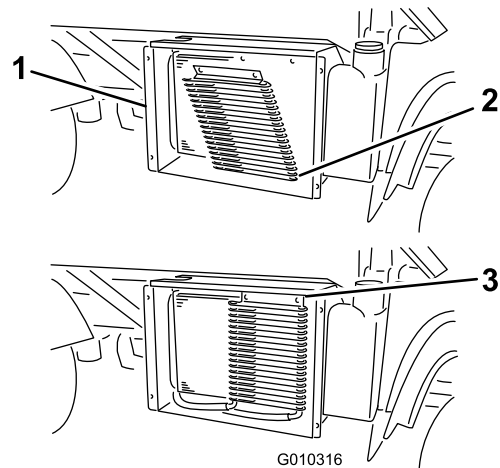

Figure 50
3. If equipped with a high flow hydraulic kit, rotate the latches and pivot the oil cooler away from the radiator (Figure 50).